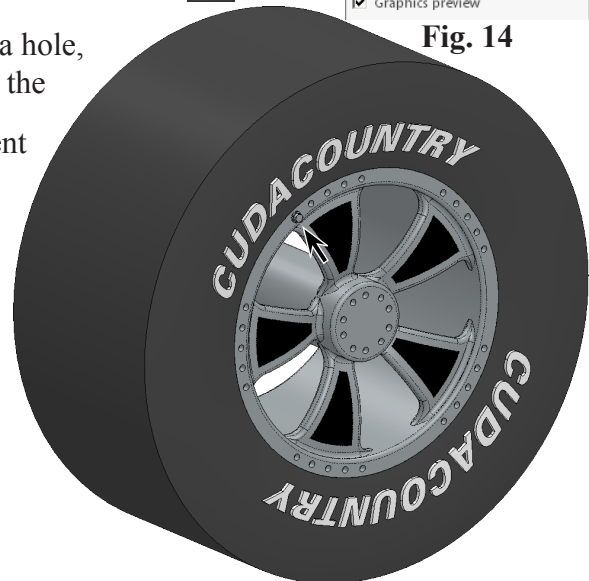

Fig. 13
Step 2. Use left Arrow key on keyboard twice to rotate view to better view **Hole Wizard** holes in Rim, **Fig. 13**.
Move the tip of your cursor to the edge of a hole, **Fig. 13**. When the screw snaps into place and the cursor changes to  concentric and coincident mate, release the screw.